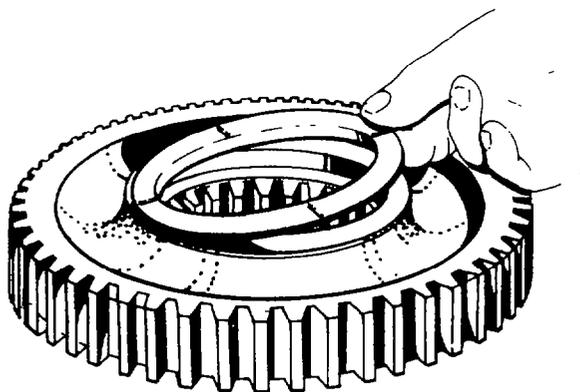

Fig. 197 — Positioning Thrust Washer on Second Gear
- f. Apply a light coat of grease (XG274) to the thrust surface of second gear, then place the thrust washer over the thrust surface. Install the second gear with the thrust washer towards third gear. Engage second gear with the second gears on the countershafts (see figs. 197 and 198).